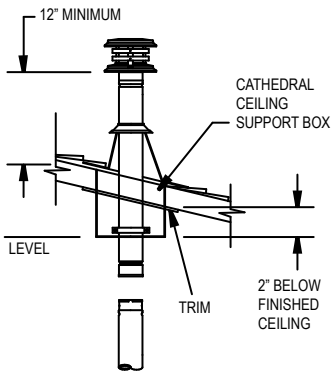

Figure 22
9. Connect the necessary amount of pipe sections to reach the stove at a point where the Cap will be at least 12-inches above the roof (Figure 22).